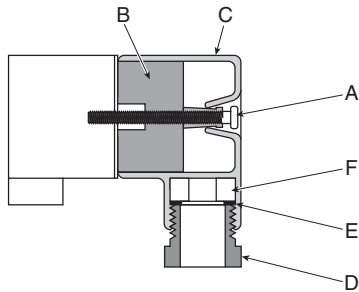

FIGURE 1
1. Remove the holding screw (A) from the cable plug, and pry the contact holder (B) from the plug case (C) (see Figure 1).